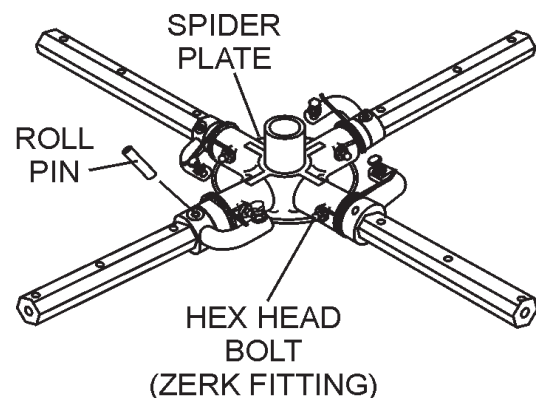

Figure 41. Removing Roll Pin and Zerk Grease Fitting
1. Each trowel arm is held in place at the spider plate by a hex head bolt (zerk grease fitting) and a roll pin. Remove both the hex head bolt and the roll pin (Figure 41) from the spider plate.